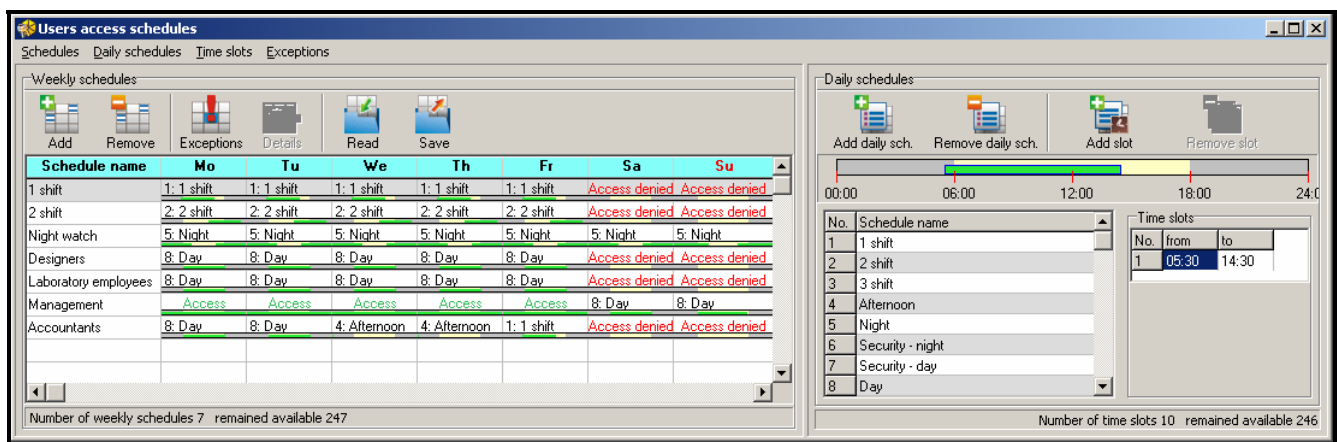
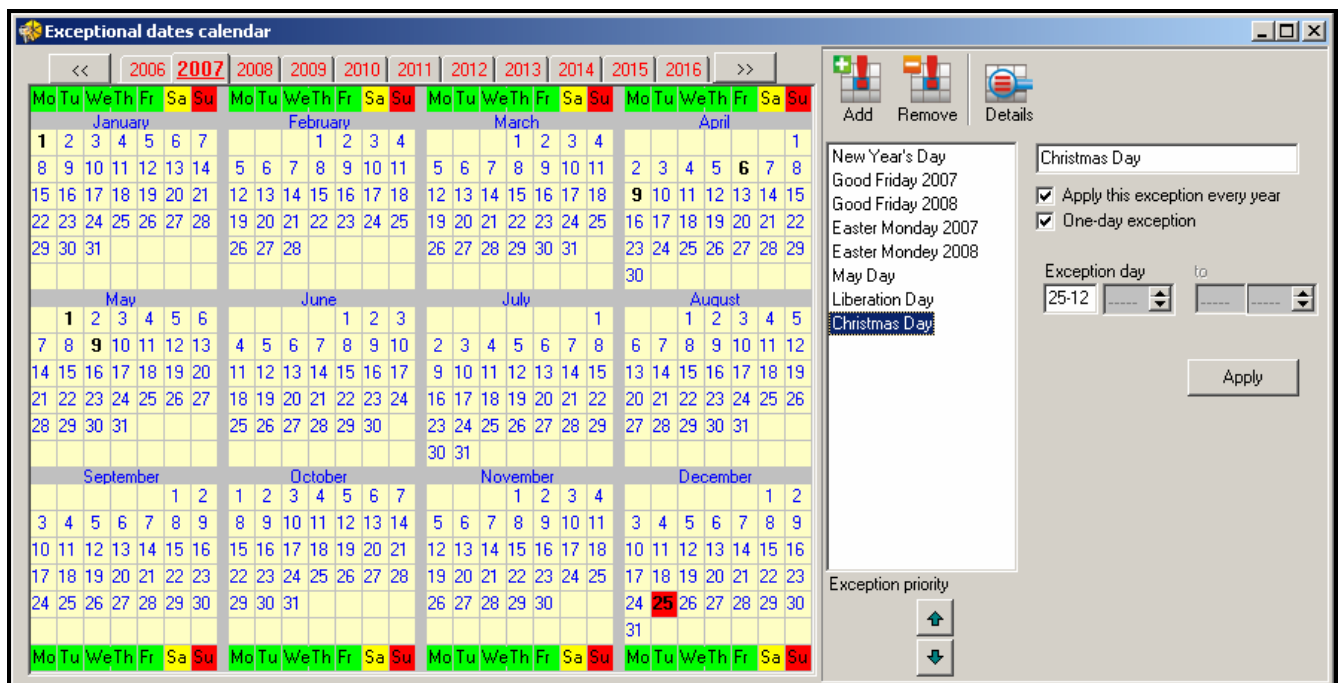

Fig. 27. Window with access schedules.
Fig. 28. Window with exceptional dates calendar.
1. Click with your mouse on the icon designated SCHEDULES, available on the program menu bar (see Fig. 19). The USERS ACCESS SCHEDULES window will open (see Fig. 27).
1. Click with your mouse on the icon designated EXCEPTIONS, available in the USERS ACCESS SCHEDULES window (see Fig. 27). The EXCEPTIONAL DATES CALENDAR window will open (see Fig. 28).